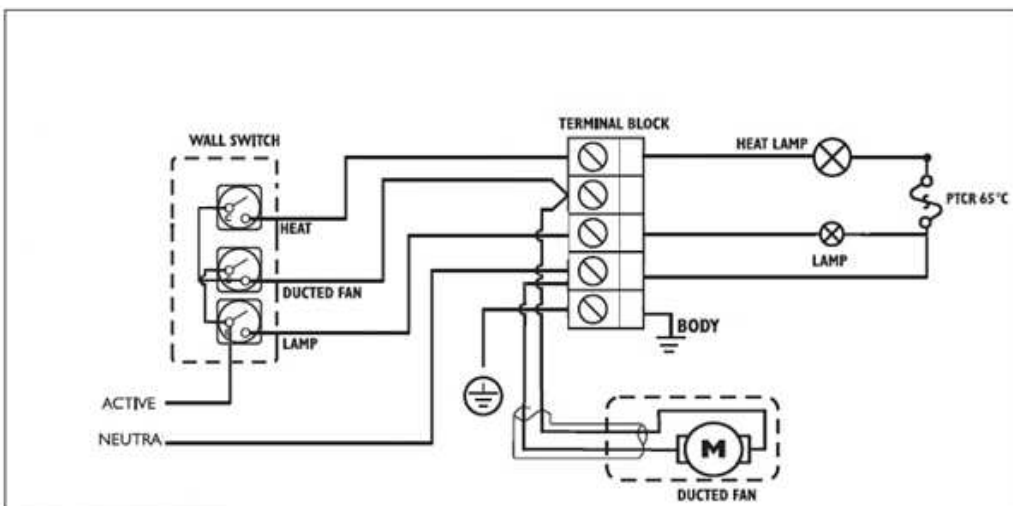

Fig. 5
7. Locate the terminal block on the back of the heater unit (under the cover). Connect the supply wires from the Ducted Fan to the terminal block via the hole on the side. Complete this according to the wiring diagram shown in Fig. 5
8. Make the wiring connection of the wall switch supplied to the terminal block on the heater unit, using the wiring diagram shown in Fig. 5, and secure the terminal box cover.